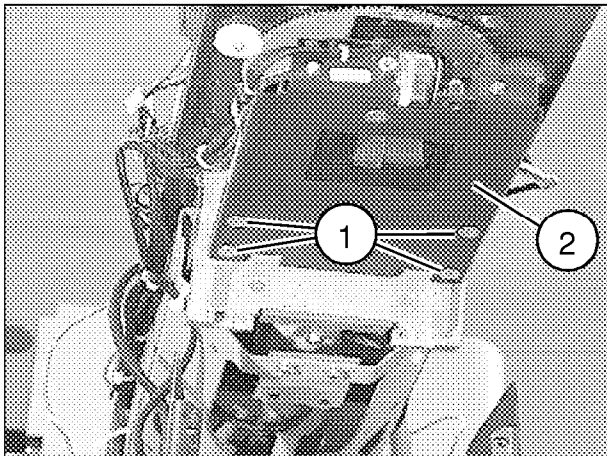

Fig. 3
- Remove the 4 screws shown in (1/Fig.3).
- Carefully lower the collimator assembly (2/Fig.3).